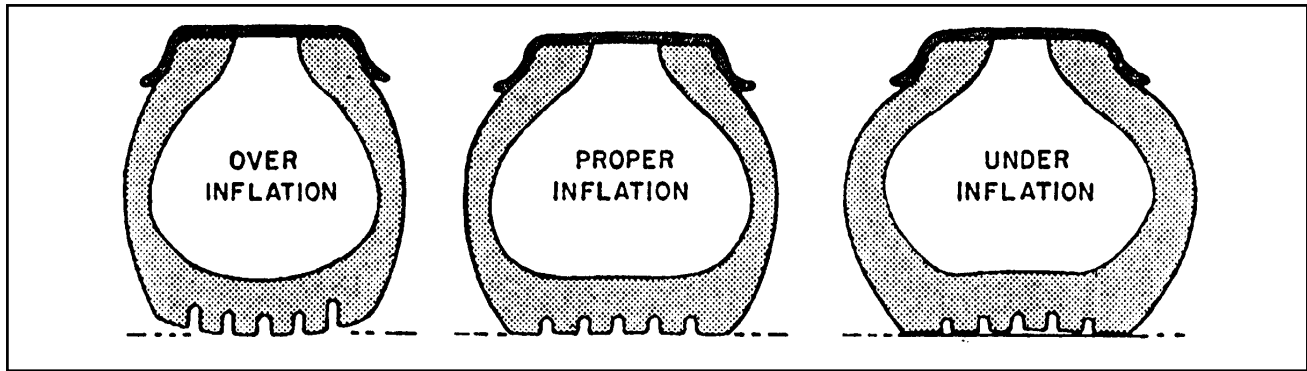

Figure 4-17 Tire Inflation Examples
**4-11.1 Tire Inflation.** Tire inflation will cause tire to ground contact characteristics as shown in **Figure 4-17**. Tire inflation should be checked daily while the tire is cold, and during road stops. Checking the tire pressures while tires are hot will give a faulty increased pressure reading. Adjusting tire air pressure to the specified amount while tires are hot will produce improper tire to road contact and thus abnormal wear. Do not exceed cold inflation pressure listed on the semitrailer VIN plate located on the front of the trailer. Exceeding cold inflation pressure will result in damaged tire bodies, rims, and wheels. Replace all valve stem caps when pressure checking/adjusting has been completed. Remove any foreign objects from between duals.